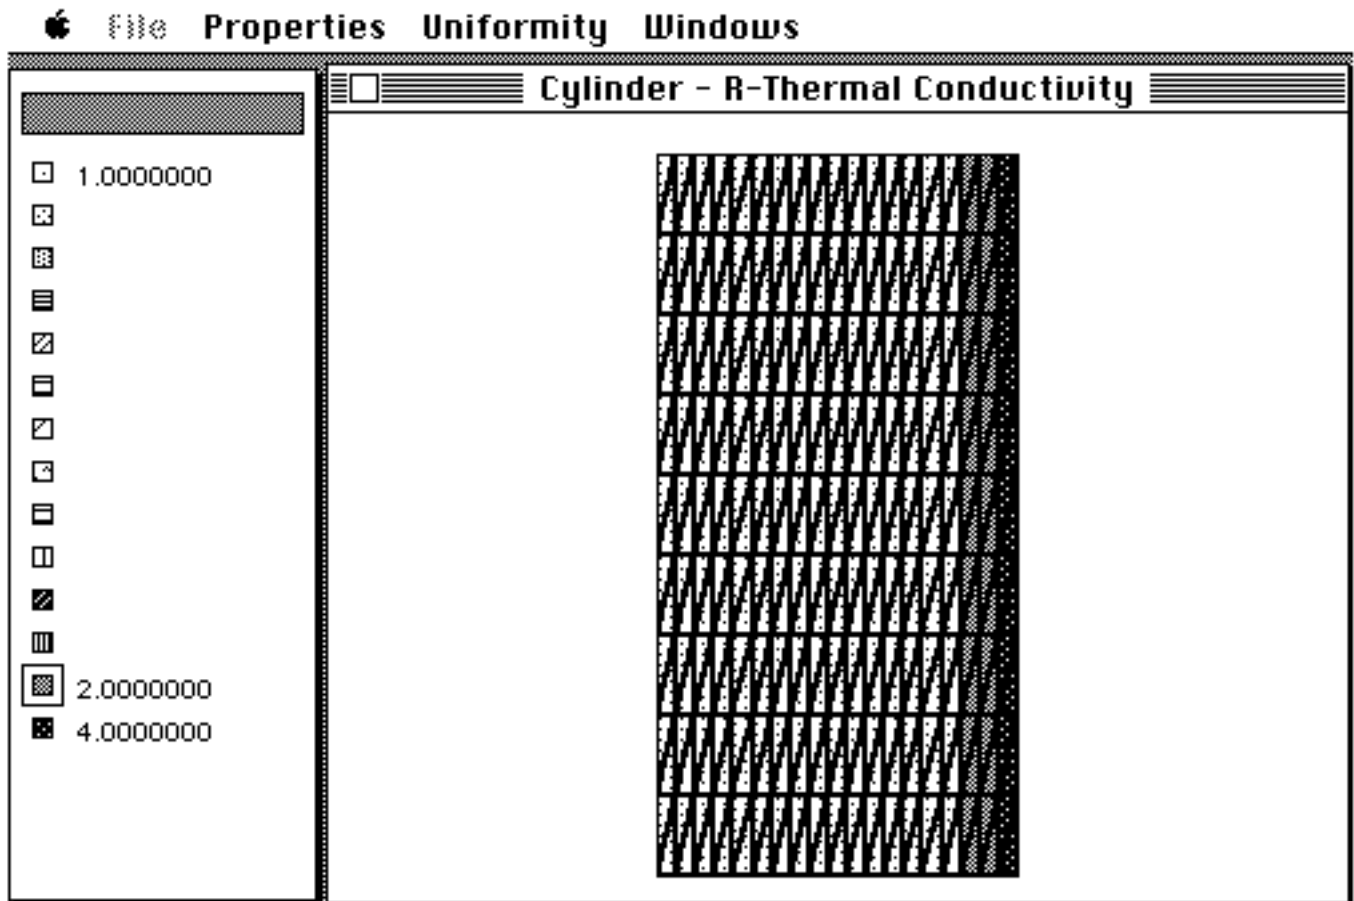

Fig 2.31 Multiple properties (by element)
- Assign values to the shades and then assign the shades to the elements by clicking or dragging (Fig 2.31).